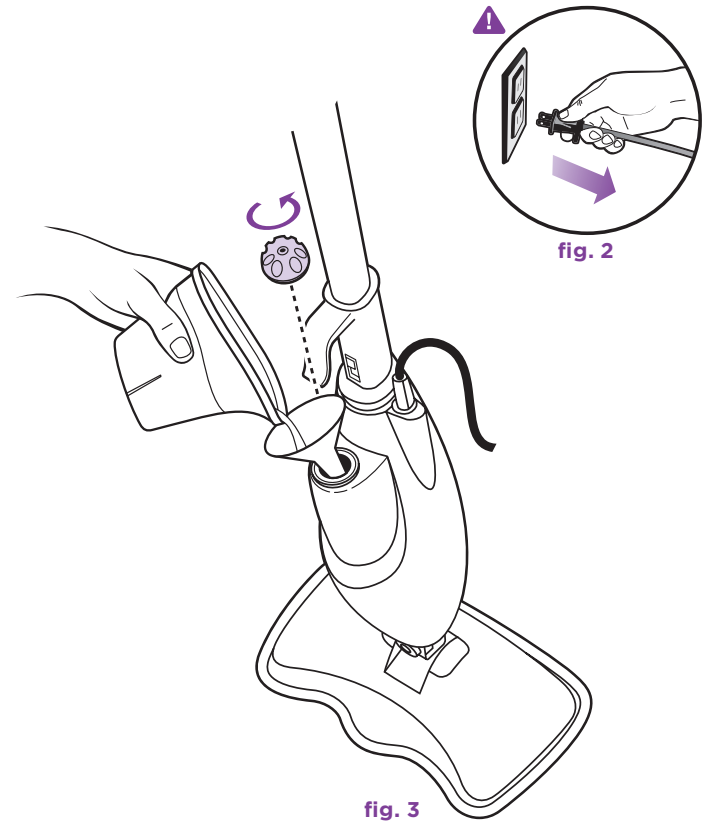

fig. 3
- 1 Remove the water tank cap by turning it counter-clockwise to the unlocked position. (fig. 3)
- 2 A filling flask and funnel are included with your **Light & Easy™** Steam Mop to make filling the water tank easy. Fill the flask with water and use the funnel to pour it into the tank. Keep the water level under the MAX FILL line. (fig. 3)
1 Pull and twist the quick release cord holder to unwrap the power cord completely. (**fig. 1**) Plug into a 120-volt electrical outlet. (**fig. 2**) The “On” light will turn blue. If the light does not turn on, reference the troubleshooting section on page 11. (**fig. 3**)
- 4 To store the cooled **Shark® Light & Easy™** Steam Mop, hang on a large hook. (**fig. 3**)